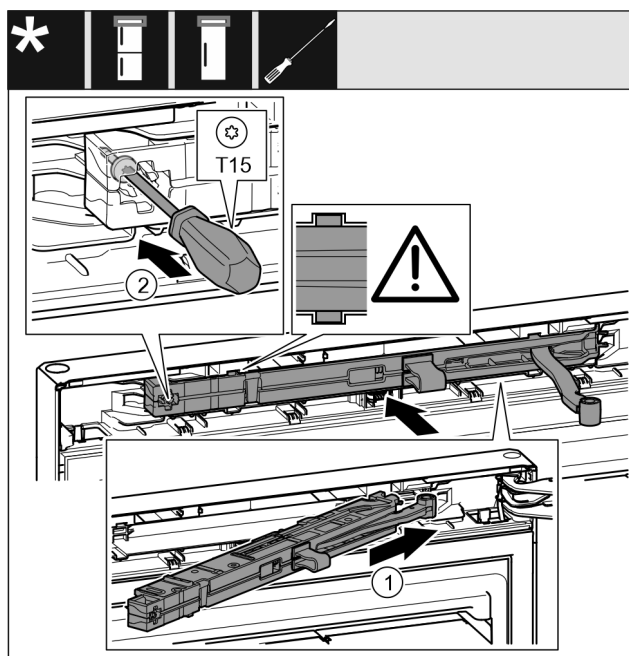

Fig. 22
- ▶ On the swap bearing block side, slide the closing damper unit Fig. 22 (1) into the recess at an angle up to the stop.
- ▶ Use a screwdriver to tighten the screw Fig. 22 (2).